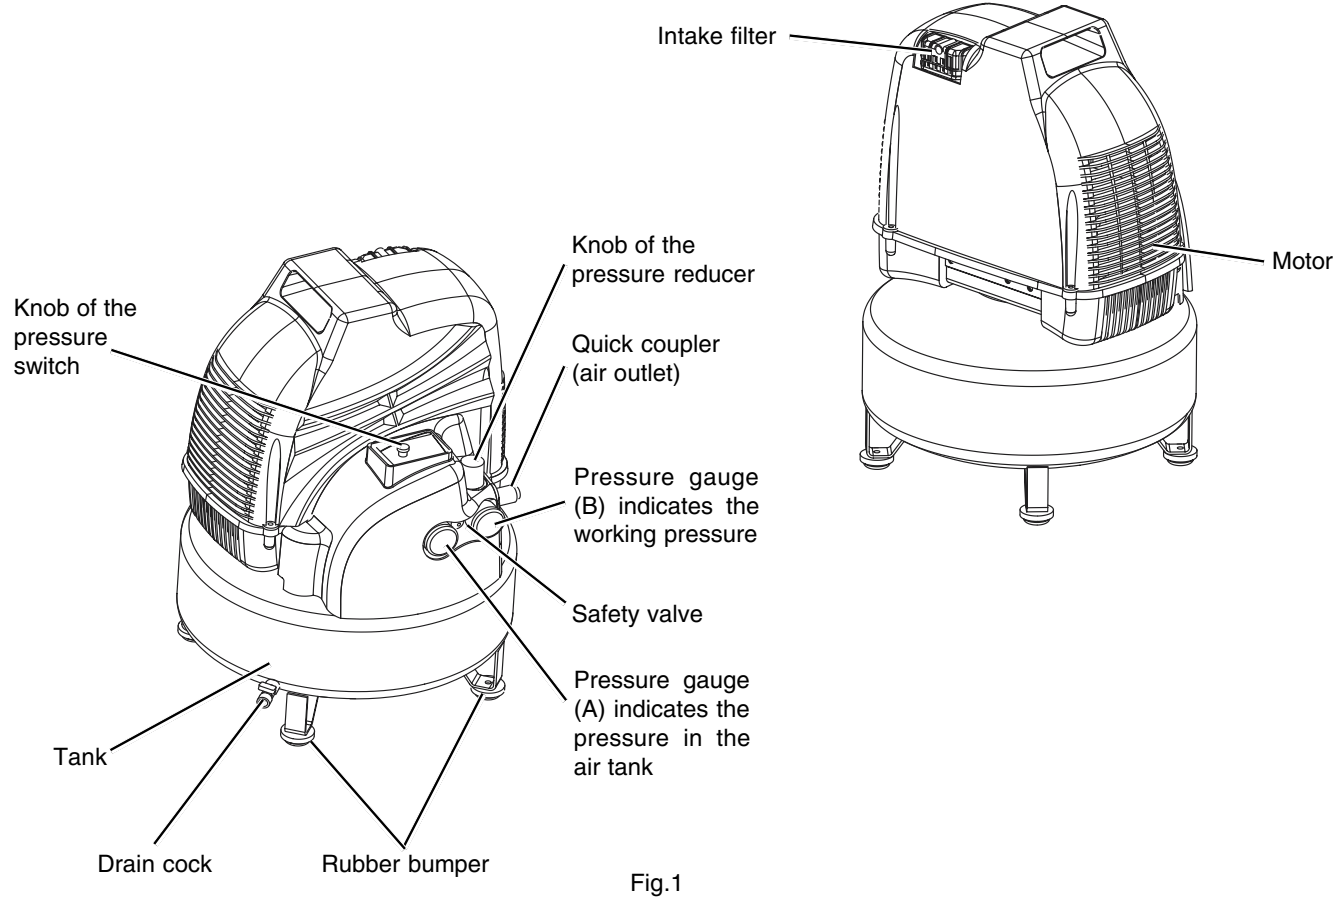
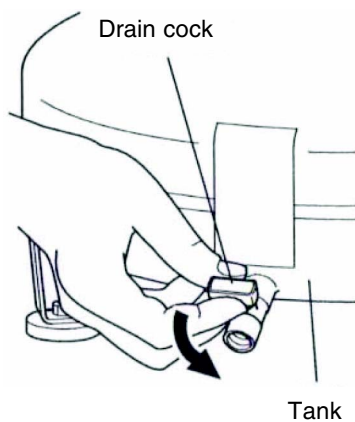
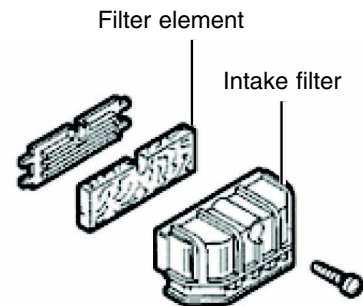

Fig.1
Fig.4
Fig.5
NOTE: When operating or storing the compressor, set 4 rubber bumpers downward on the floor (Refer to Fig.1)
- (1) Push the knob of the pressure switch to "OFF" (Refer to Fig. 1 and Fig. 2).
- (2) Unplug the plug from power source.
- (3) Open the drain cock located at the lower part of the tank (Fig. 4).
Remove the intake filter (Refer to Fig. 1) every 50 hours or once a week and clean the inside of the intake filter and the filter element with compressed air (Fig. 5). Use a phillips screwdriver to disassemble intake filter.
Drain tank daily or after 4 hours of use. Open drain tank and tilt compressor to empty accumulated water (Refer to Fig. 4).